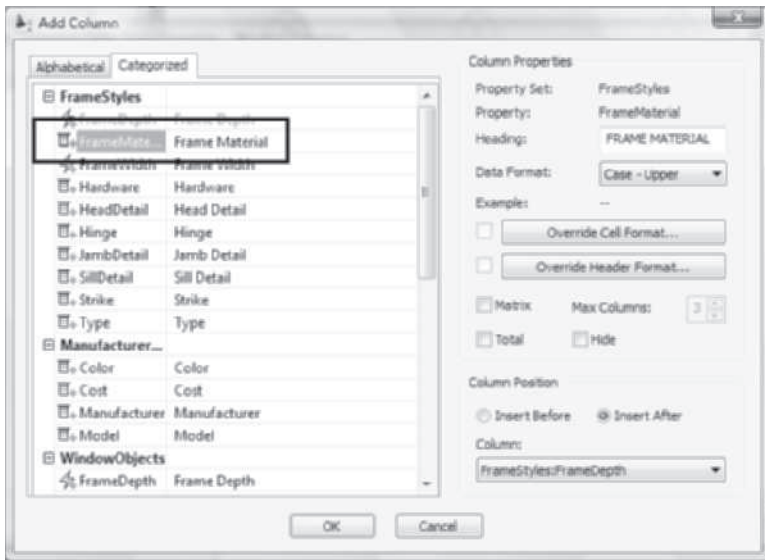

FIGURE 11.62 Adding a Frame Material column to the window schedule
13. Click the **Add Column** button to open the **Add Column** dialog box. Scroll down the left column of properties and select **FrameMaterial** from the **WindowObjects** property set. Overtyping **FRAME MATERIAL** in the **Column Properties** section. Verify that Data Format = **Case-Upper**. Select the **Insert After** radio button of the **Column Position** section and select **WindowObjects:FrameDepth** from the **Column** dropdown list as shown in Figure 11.62. Click **OK** to dismiss the **Add Column** dialog box.